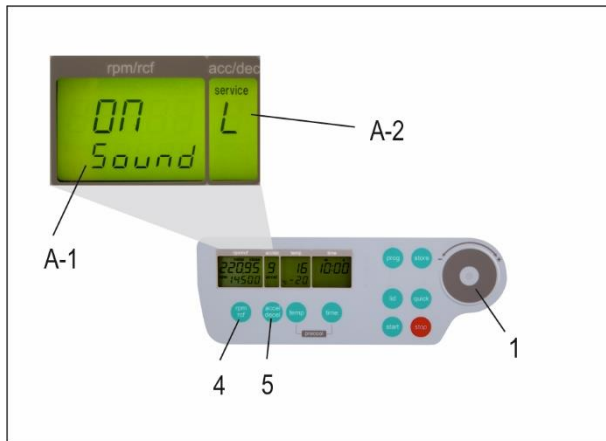

Figure 9
Proceed as illustrated, under point 1.8.1, to enter this program mode, press the key; "accel/decel" (5). In the display, "accel/decel" (A-2) flashes the word, "service". Select the letter, "L" with the control field (1). As a result, appearing in the display "rpm/rcf" (4), are the words, "On Sound". By pressing the key, "rpm/rcf" (4), the word "On" flashes, and the sound can be switched off with the control field (1), (see Figure 9).